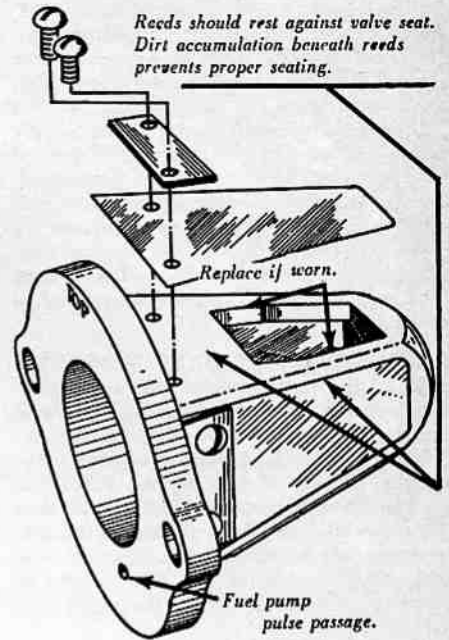

Fig. HL55—Pyramid type reed valve, showing proper installation for models with metal reed seat.
**REED VALVE.** (Except 2000 Series). The reed inlet valve on Models C-5, C-7, C-51 and C-71 is attached to the carburetor adapter elbow (9—Fig. HL51) and is serviced as a complete assembly only. A pyramid reed valve is used on other models. Refer to Fig. HL55 for service information on the pyramid reed valve assembly. When installing new reeds on pyramid seat, thoroughly clean all threads and apply Loctite to threads on screws before installing. Be sure reeds are centered on seats before tightening screws.